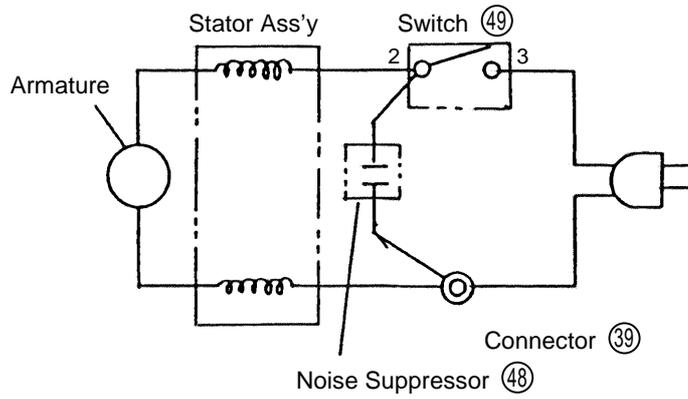

Fig. 3
- (5) Wiring Diagrams (See Figs. 3 4):